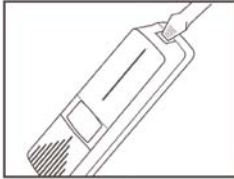

Figure 1
- To access the channel adjustments on the doorbell button, remove the cover of the doorbell button by depressing the small latch at the bottom (Figure 1.) Find the dip switches inside and change the position of one or more of the switches **numbered 1 through 7.**